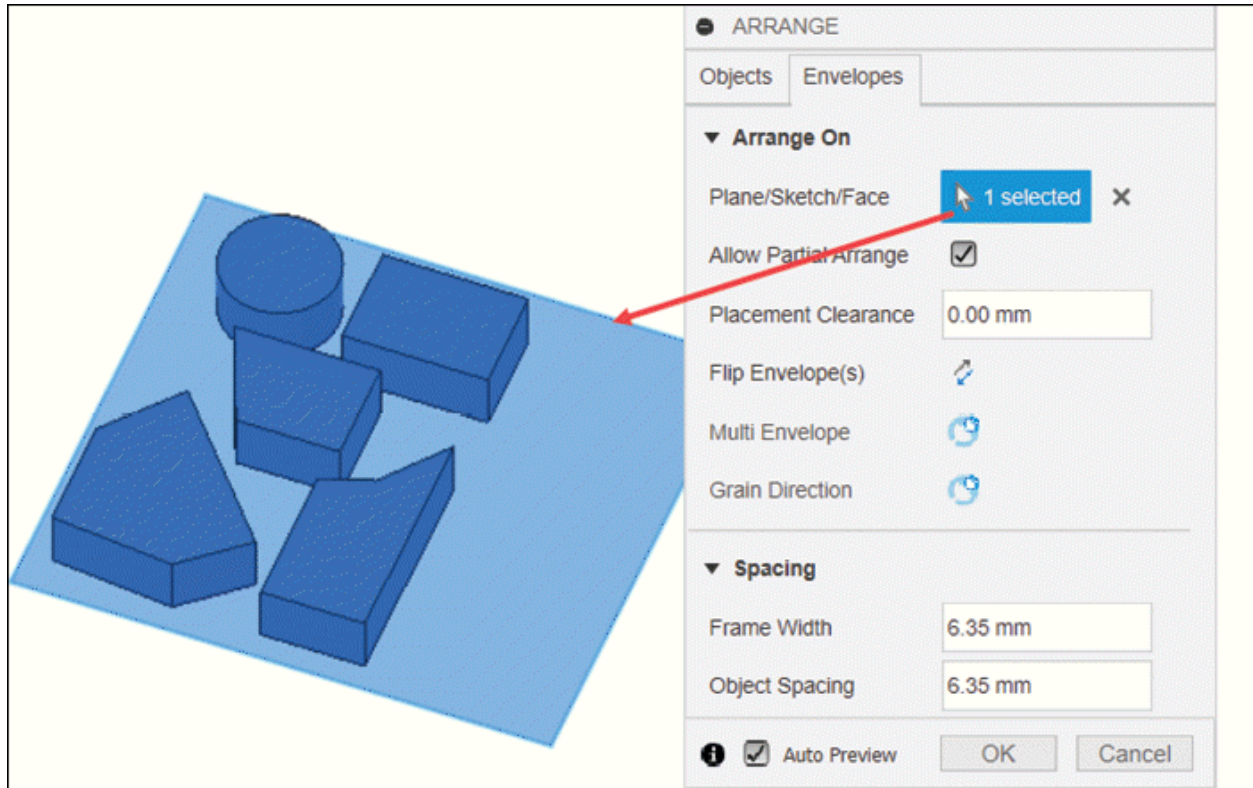

Figure-62. Arranging in 2D sketch
- If you have selected a sketch then components will be automatically arranged within sketch boundary and options will be displayed as shown in Figure-62.